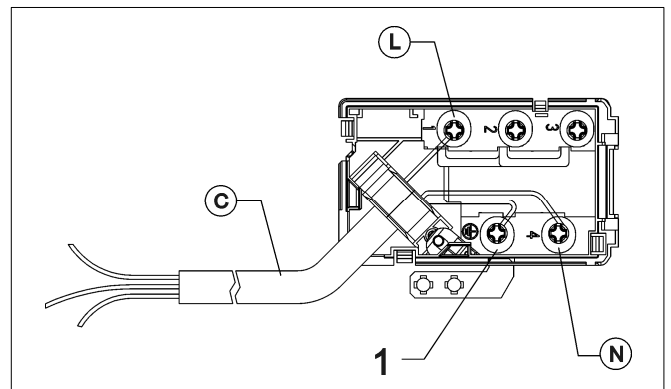

FIG. 11
- fit a standard plug to the power cable "C" if necessary (see fig. 11).
- Connect the wires in compliance with the diagram in fig. 11, ensuring that the following are observed: